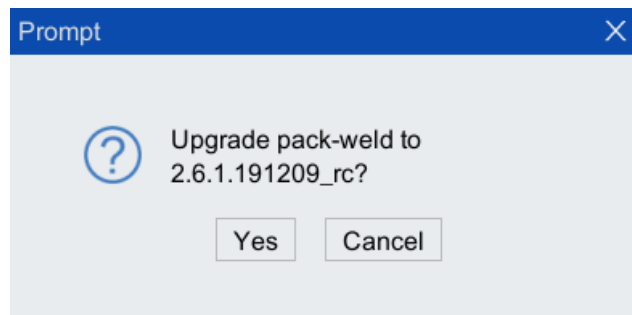

Fig. 3-5 Dialog box
Step 7. A dialog box shown in Fig. 3-5 will pop up to prompt whether to upgrade. After checking, click "Yes" button.